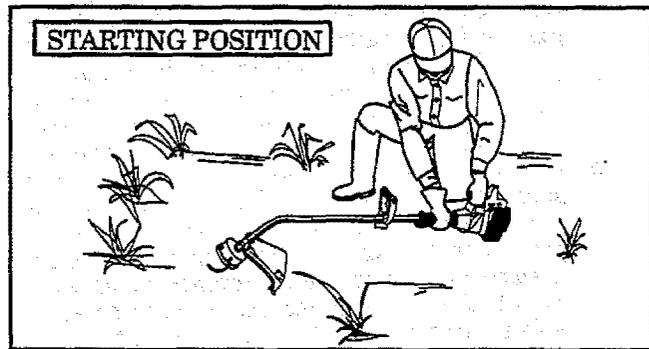

Figure 8
- Extend lines approximately 4 inches from Trimmer Head to provide adequate load on engine. Figure 8.
- Rest Engine and Shield on ground, supporting Trimmer Head off ground away from trees, bushes, onlookers, etc. Figure 8.